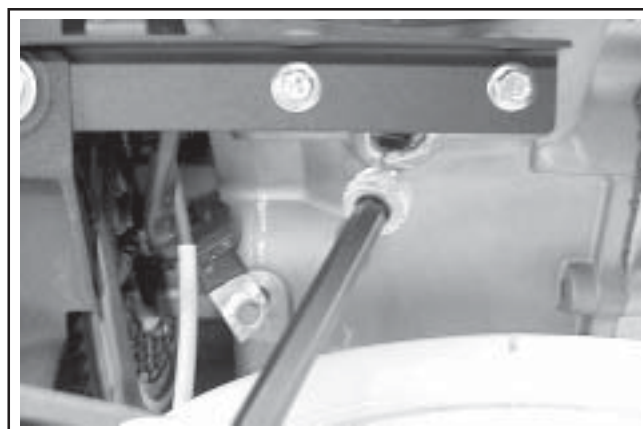

Figure 9-5. Removing Coolant Drain Plugs in Block.
2. If equipped, remove the coolant drain plugs on each side of block. Allow any remaining coolant to drain out. See Figure 9-5. Dispose of the coolant properly, according to local regulations.